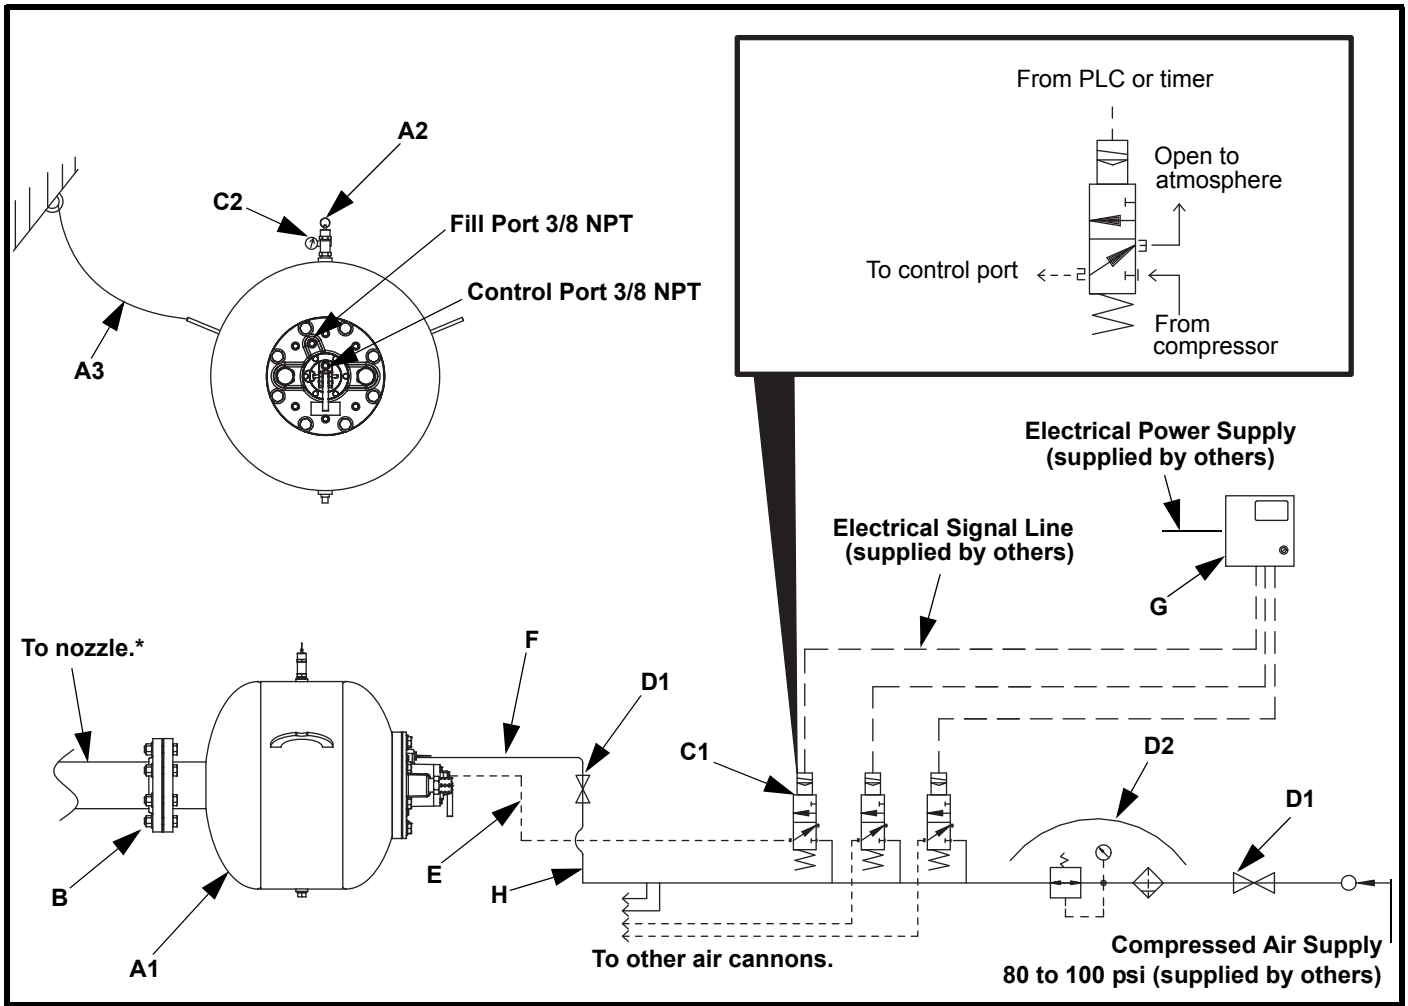

Figure 16. Plumbing Detail for Normally-Closed Solenoid Valve
- b. If using a normally-closed solenoid valve, connect the 3-way electric solenoid valve outlet port (2) to exhaust valve control port. See Figure 16.